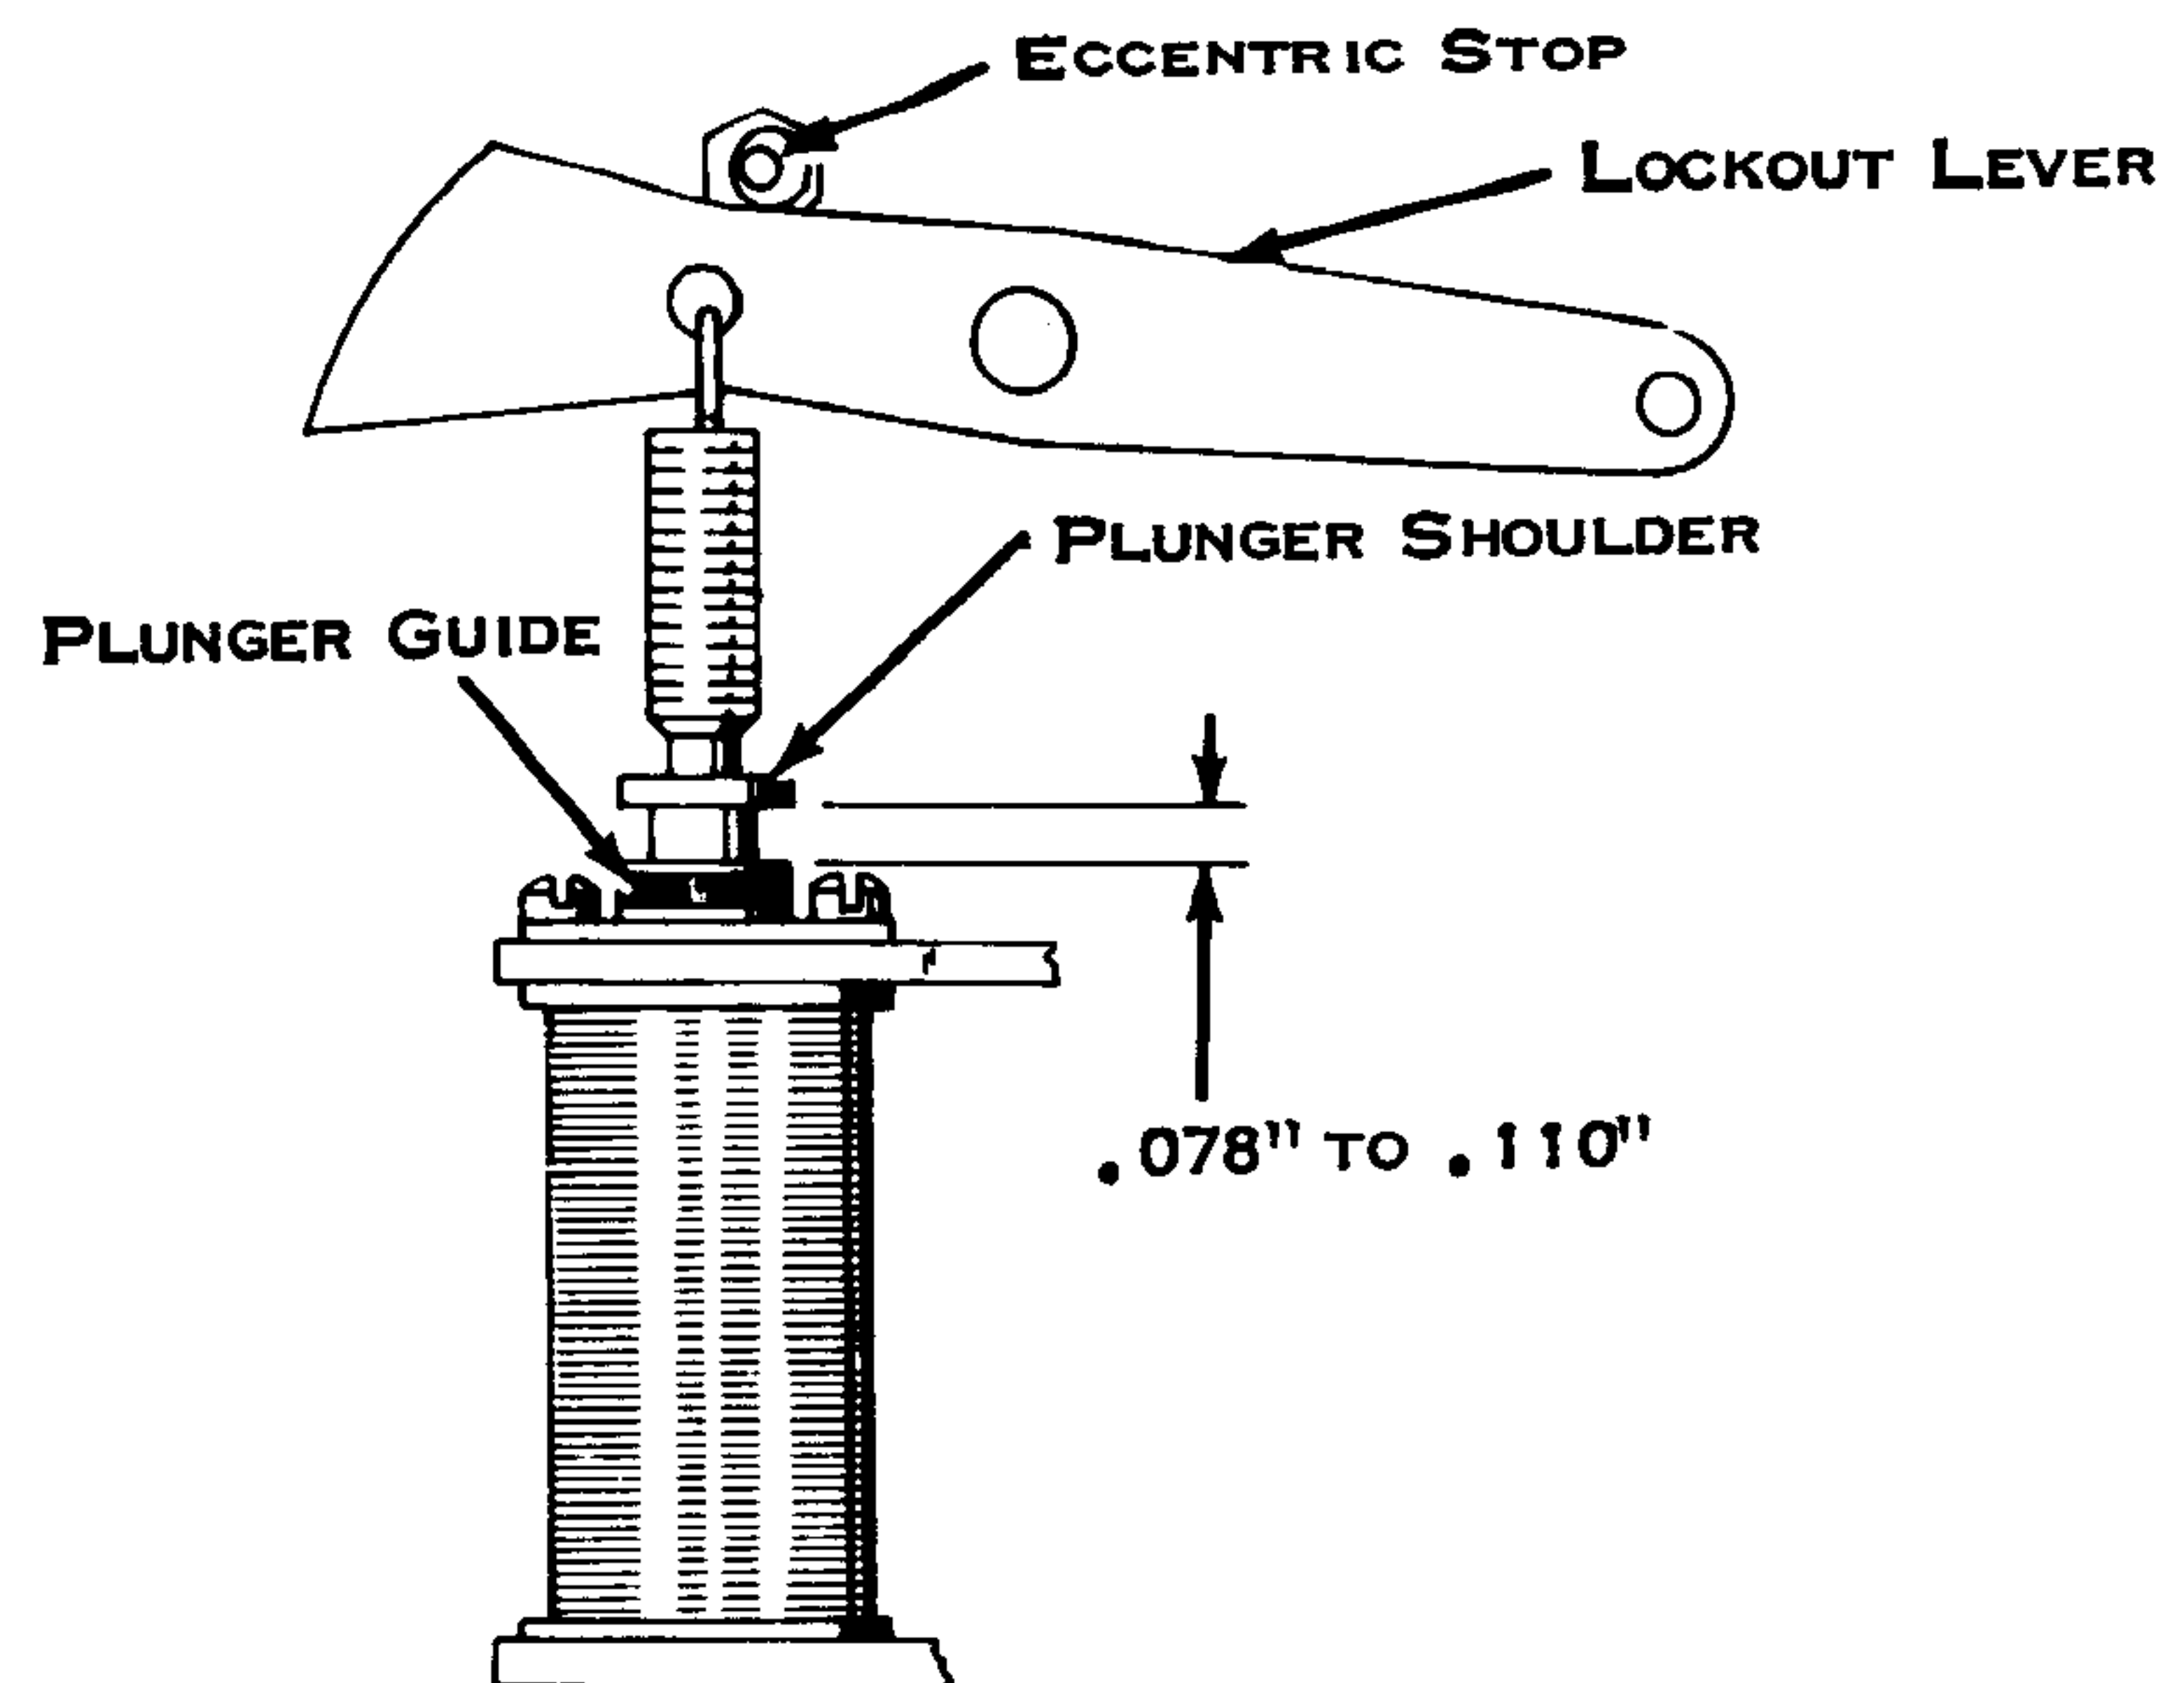

Figure 41. Eccentric Stop
c. Position the solenoid directly beneath the lockout lever (Fig. 41).
- Eccentric Stop (Fig. 41) - Adjust (lockout lever resting against the eccentric stop) so that the plunger shoulder clears the plunger guide by .078" to .110".